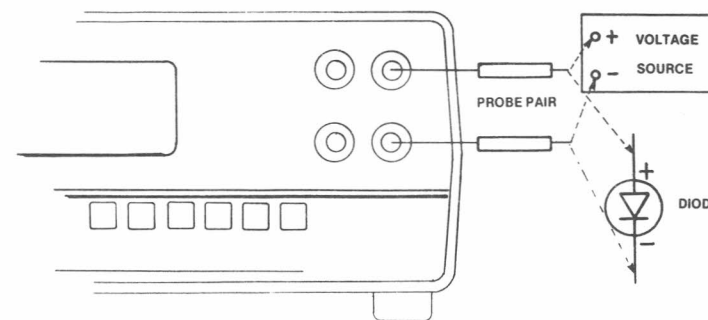

Fig. 3-4. Connecting Model 2590/2590R for Voltage or Diode Measurements
- Connect unknown voltage high and low to the Model 2590 terminals as shown in Figure 3-4.